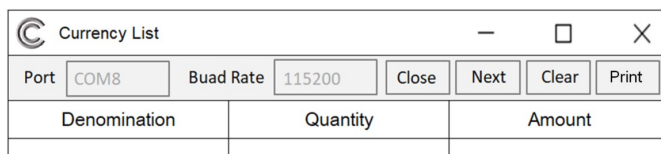

Figure 66
3) Then press the Open key, the serial port and baud rate fonts dim, OPEN becomes CLOSE, and then you can count the banknotes and view the counting information, as shown in Figures 66 and 67 below.